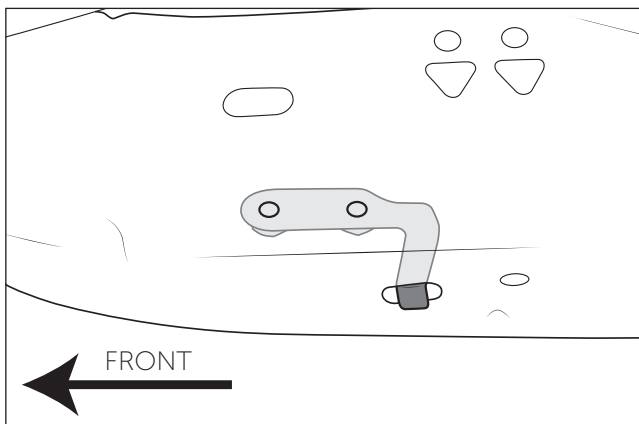

Figure 2
- 2. Insert flag nut into the passenger side frame (fig. 2).